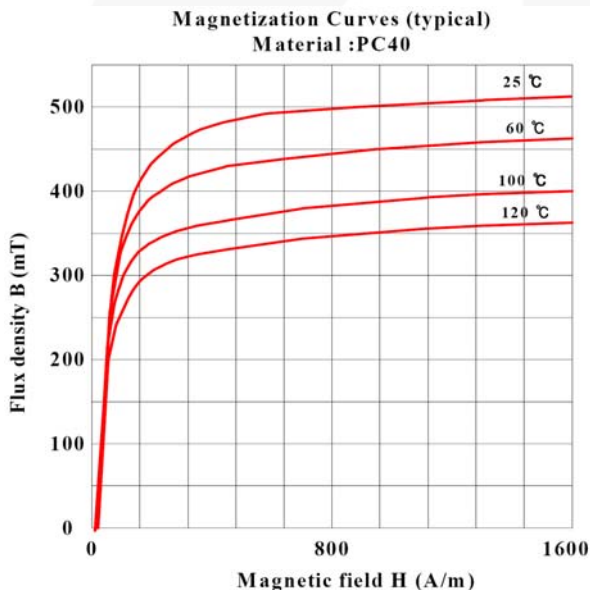

Figure 6. Typical B-H Characteristics of Ferrite Core (TDK/PC40)
The pulse-by-pulse current limit level is included in Equation (17) because the inductor current reaches the pulse-by-pulse current limit level during the load transient or overload condition. Figure 6 shows the typical characteristics of ferrite core from TDK (PC40). Since the saturation flux density (B_{SAT}) decreases as the temperature goes high, the high temperature characteristics should be considered. If there is no reference data, use $B_{MAX}=0.3\text{T}$.